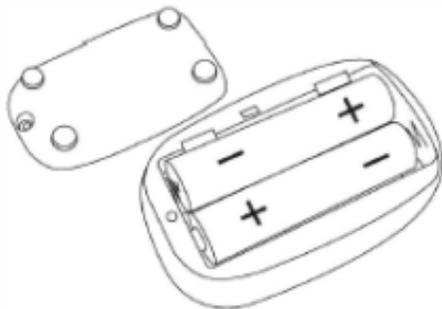

Figure 3. Batteries installation
Step 1. Refer to Figure 3. and insert the two AAA size batteries properly in the right direction.